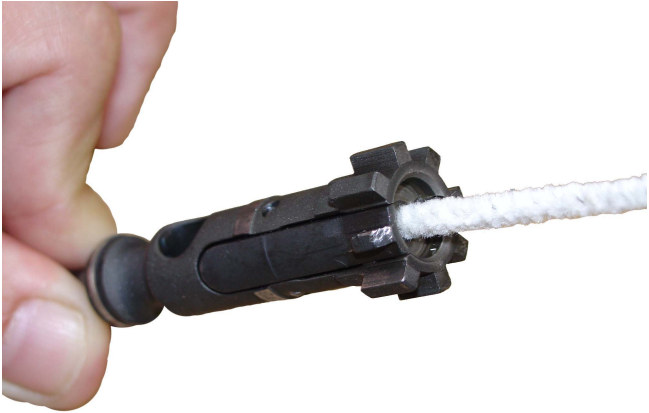

Figure 3-57. Cleaning the Firing Pin Hole
- (3) Firing pin recess and firing pin.
- (4) Firing pin hole (use pipe cleaner). Refer to Figure 3-57.